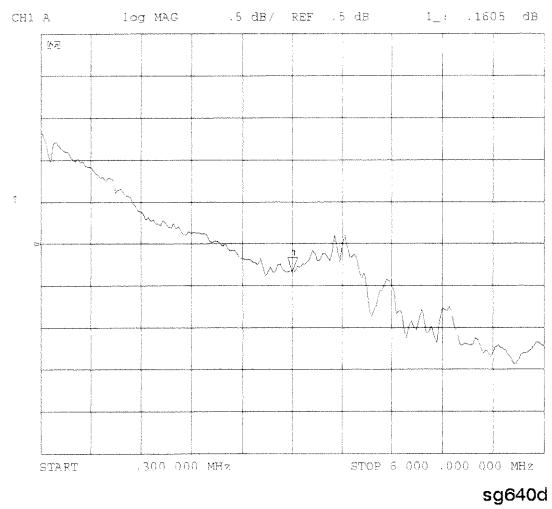

Figure 8-2. Typical Good Trace
Good inputs produce traces similar to Figure 8-2 in terms of flatness. To examine both input traces, do the following:
2. Check the flatness of the input A trace by comparing it with the trace in Figure 8-2.
3. Check the flatness of the input B trace by comparing it with the trace in Figure 8-2.
- If neither of the input traces resemble Figure 8-2, continue with "Troubleshooting When All Inputs Look Bad."
- If at least one input trace resembles Figure 8-2, continue with "Troubleshooting When One or More Inputs Look Good."